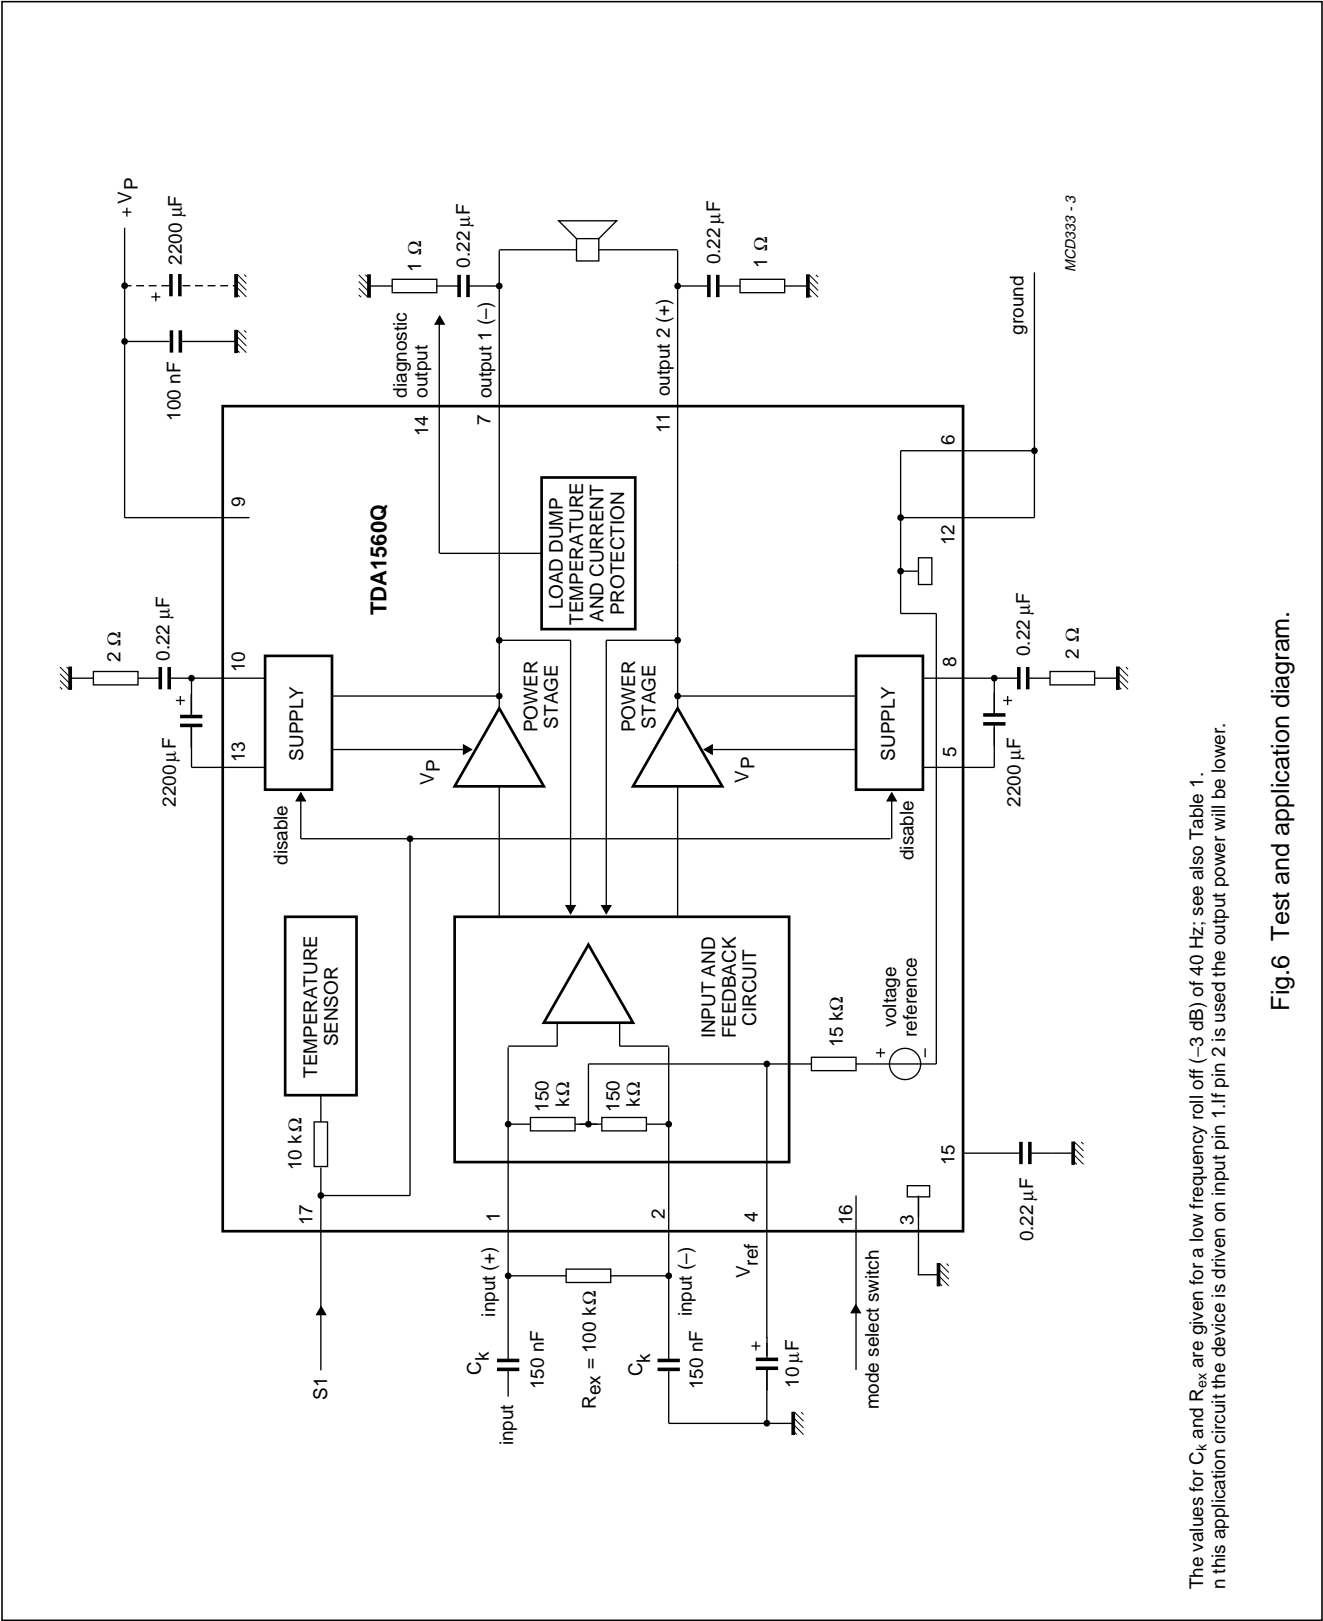

Fig.6 Test and application diagram.
$V_P = 14.4\text{ V}$; $R_L = 8\ \Omega$; $T_{\text{amb}} = 25\text{ }^{\circ}\text{C}$ and using 4 K/W heatsink; measured in Fig.6; unless otherwise specified.
$V_P = 14.4\text{ V}$; $R_L = 8\ \Omega$; $f_i = 1\text{ kHz}$; $T_{amb} = 25\text{ }^\circ\text{C}$ and using 4 K/W heatsink; measured in Fig.6; unless otherwise specified.
1. With a continuous sine wave input signal the output power is approximately 1 W less than driven with a bursted signal; also depending on the equivalent series resistance of the electrolytic capacitors C1 and C2 (see Fig.6) and the resistance of the connections between pins 5, 8, 10 and 13 and C1, C2.